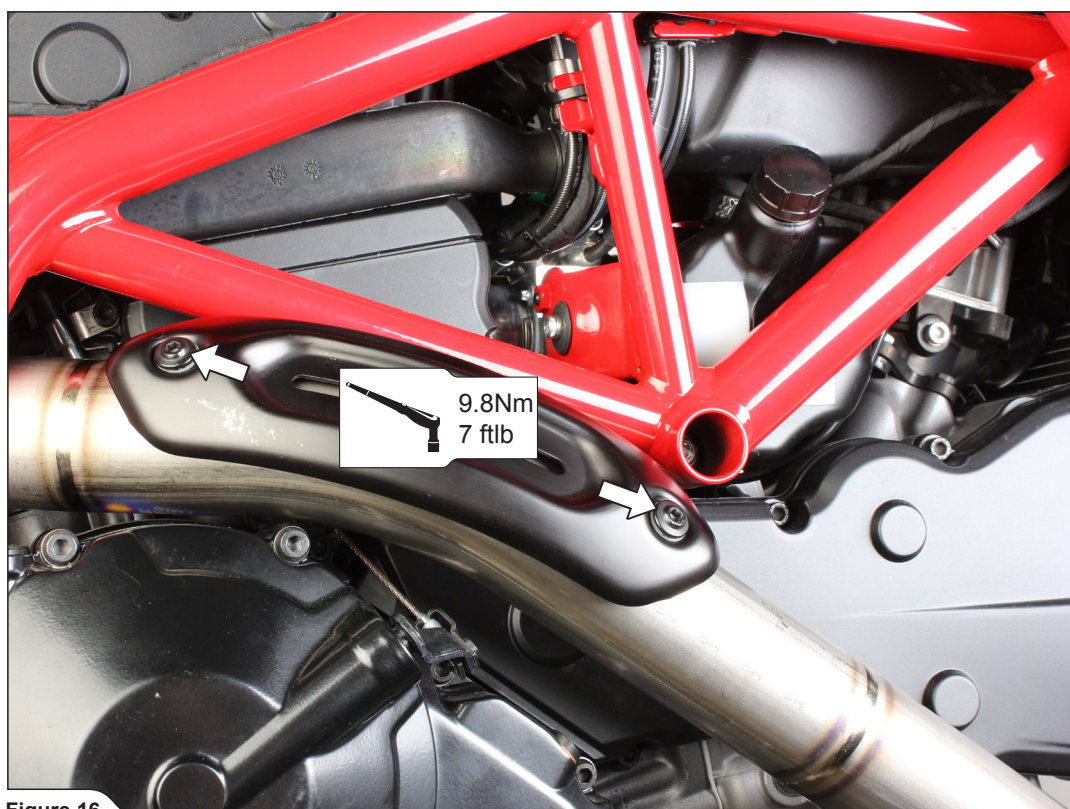

Figure 16
3. Install the front stock heat shield, using stock bolts and heat resistant washers (Figure 16).